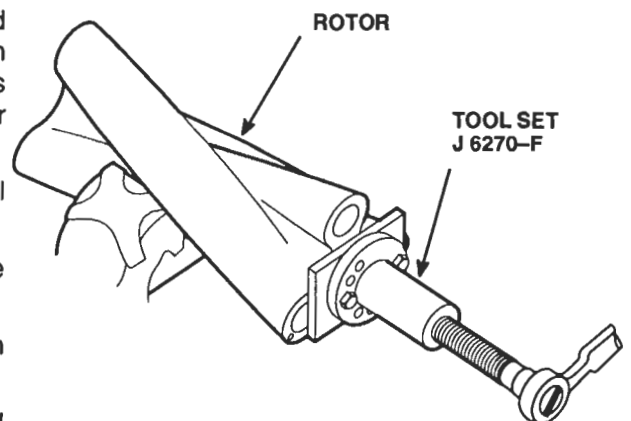

Figure 10. Removing Oil Seal Ring Carrier from Blower Rotor Shaft
- c. Place the seal ring carrier remover adaptor J 6270-2 over the carrier (Figure 10). Make sure the adaptor is seated in the groove of the carrier.